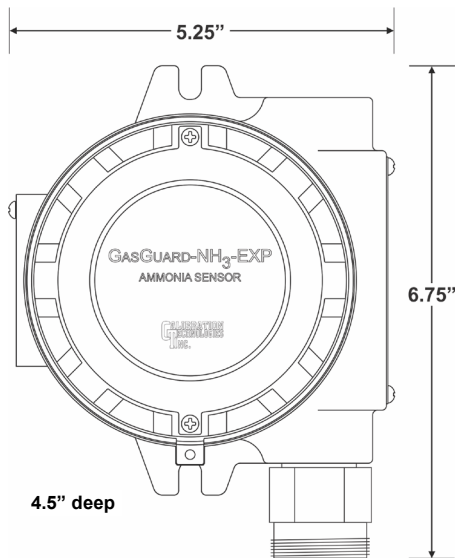

Figure 1: Mounting dimensions
- Mount sensor enclosure through the mounting holes as shown in **Figure 1**.